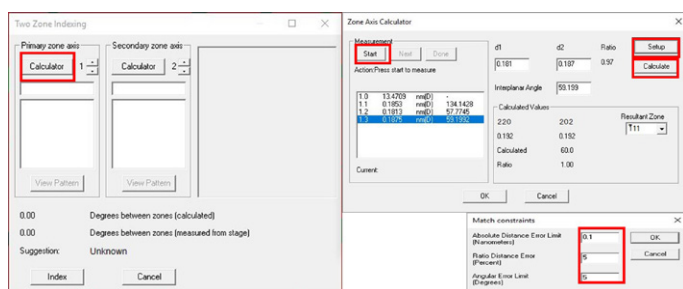

Figure 6. 2Zone windows to construct K-space.
- 8.1 Click **2Zone** under the **Index** menu. The **Two Zone Indexing** floating window will appear (Figure 6).
- 8.4 Press **Calculator** for the first zone axis. The **Zone Axis Calculator** will appear (Figure 6).
- 8.5 Press **Start** and follow the steps to index a crystal. For each indexing, it is recommended to use at least THREE diffracted beams in addition to the transmitted beam (Figure 6).
- Or press **Setup** (Figure 6) to set larger tolerances of matching constraints for indexing.